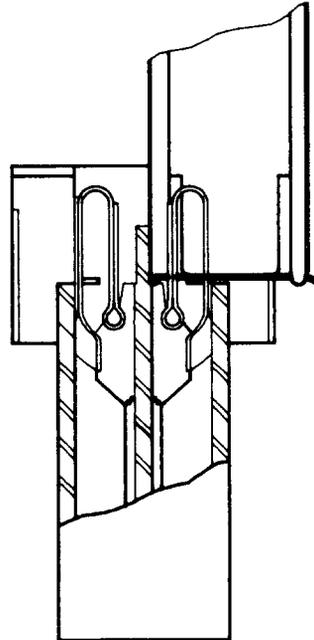

Fig. 12—Wire Insertion—Cut-Off End of R-4858 (Amp No. 266187-1) Repair Tool in Place
4.07 Using the repair tool, align the insertion blade and cut-off blade as shown in Fig. 12. Then, apply force to the wire to lock it in place and cut off the excess.